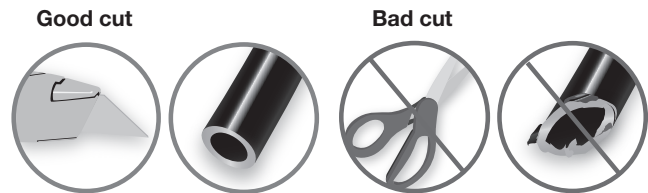

*Fig. 24*
1. Choose the locations for the Schrader valves and drill a 5/16" (8mm) hole, if necessary (Fig. 24).
2. An optional tee fitting (GG) has been supplied for those who prefer to use just one Schrader fill valve on the vehicle.